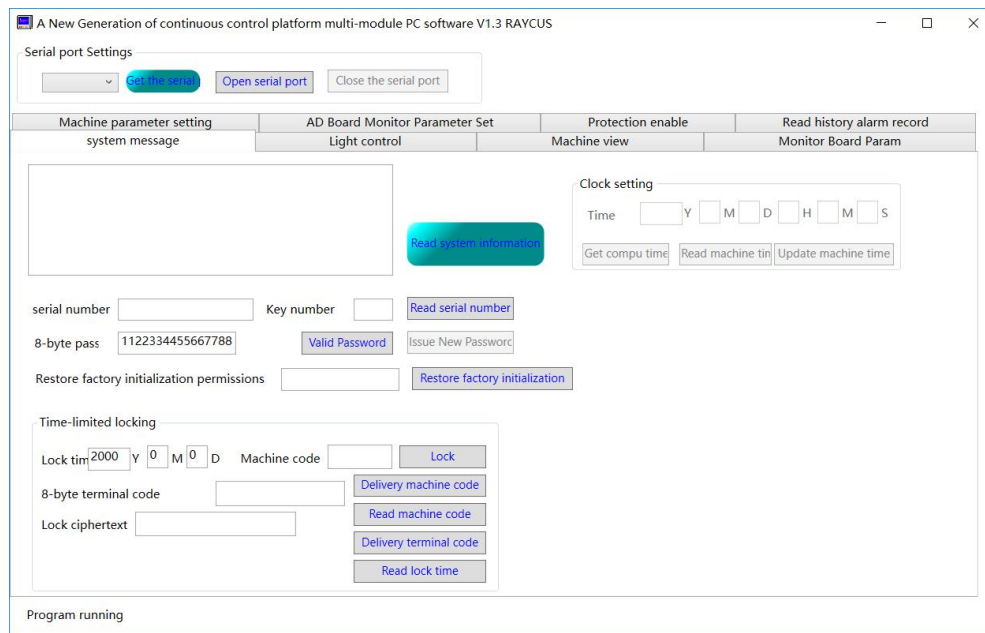

Figure 16 Inteface 1 of the RAYCUS laser client control software.
- (1) The power wiring and control wiring are connected correctly, and the voltage meets product requirements.
- (2) Ensure the laser emission button on the front panel is released and the level of sixth pin “LAS_C” of “INTERFACE” port on the rear panel is low.
- (3) Status of Interlock is correct..
- (4) Make sure that the water cooling system is connected. The water cooler starts to work, and the temperature of the water is at the proper working temperature (about 25°C). Check whether there is any leakage issues within entire water cooling system and the joints.
- (5) Turn the key to “ON” position, and power on the laser, then the green LED will illumine. Double click the RAYCUS laser client control software, then the following interface can be seen in Figure 16.